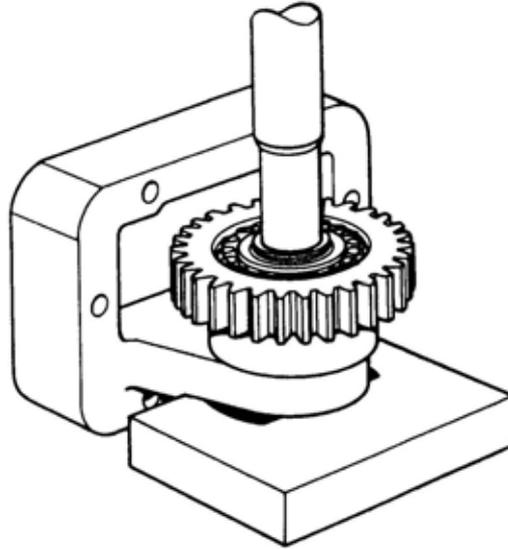

Figure 12 Pressing the Shaft from the Housing
- b. Suitably support the adaptor housing on a press, then press the shaft through the gear until there is sufficient space to remove the gear (Figure 12).